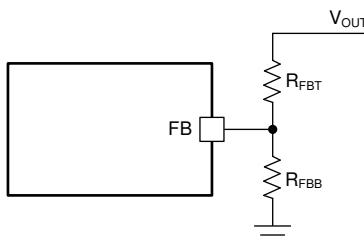

**Figure 8-1. SW Node and Inductor Current Waveforms in Continuous Conduction Mode (CCM)**
The following operating description of the LMR544xx refers to Section 8.2 and to the waveforms in Figure 8-1. The LMR544xx is a step-down synchronous buck converter with integrated high-side (HS) and low-side (LS) switches (synchronous rectifier). The LMR544xx supplies a regulated output voltage by turning on the high-side and low-side NMOS switches with controlled duty cycle. During high-side switch ON time, the SW pin voltage swings up to approximately  $V_{IN}$ , and the inductor current,  $i_L$ , increases with a linear slope of  $(V_{IN} - V_{OUT}) / L$ . When the high-side switch is turned off by the control logic, the low-side switch is turned on after an anti-shoot-through dead time. Inductor current discharges through the low-side switch with a slope of  $-V_{OUT} / L$ . The control parameter of a buck converter is defined as Duty Cycle  $D = t_{ON} / T_{SW}$ , where  $t_{ON}$  is the high-side switch ON time and  $T_{SW}$  is the switching period. The converter control loop maintains a constant output voltage by adjusting the duty cycle D. In an ideal buck converter, where losses are ignored, D is proportional to the output voltage and inversely proportional to the input voltage:  $D = V_{OUT} / V_{IN}$ .